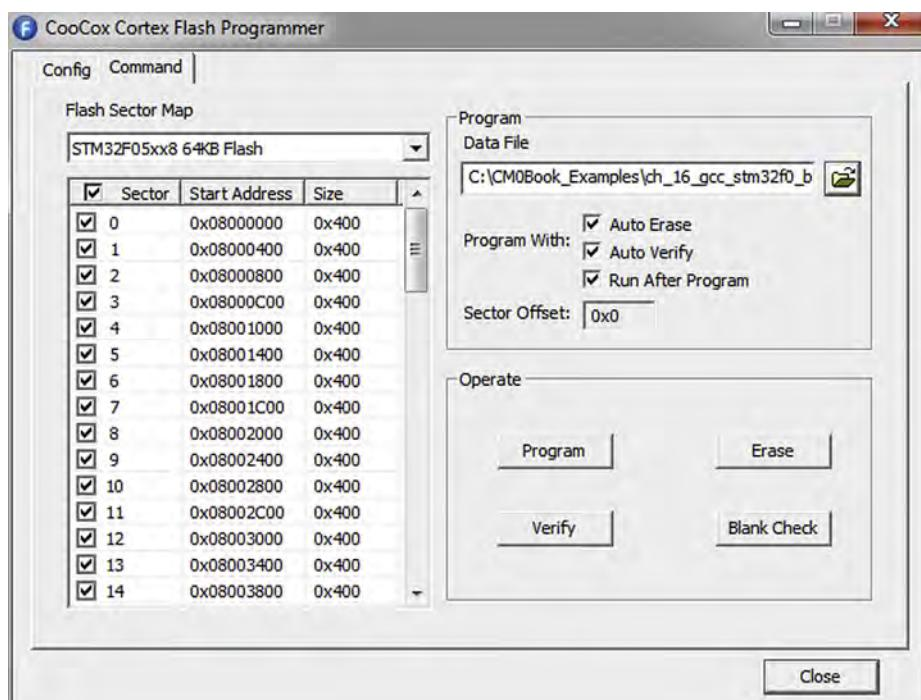

Figure 16.4
- Then switch to the command tab (Figure 16.4), where you can select the program image (can be binary or executable image “.elf”), and then you can click on the “Program” button to start the flash programming.